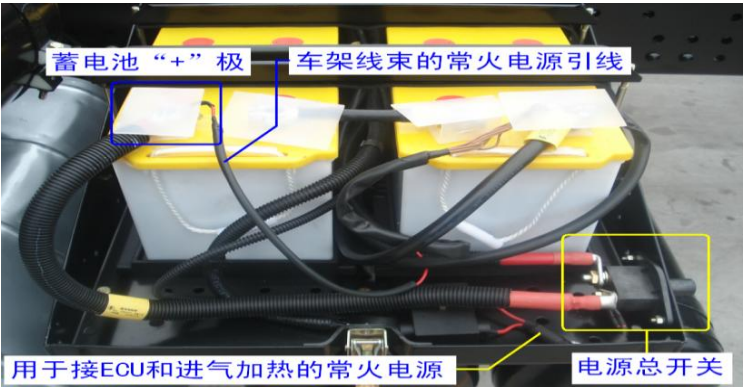

图9 德龙常火电源在蓄电池箱内的接线
**5.常火电源;**（不受电源总开关控制的电源）接常火电源的红线，接蓄电池负极的搭铁线也和侧标志灯线一同敷设至左纵梁并穿入蓄电池箱，直接接在蓄电池“+”极接线柱上（如图9所示）。
The red wire for the constant power supply (not controlled by the main power switch) is connected. The grounding wire, which is connected to the negative terminal of the battery, is routed along with the side marker light wire to the left longitudinal beam and then enters the battery box. It is directly connected to the positive terminal of the battery on the terminal post (as shown in Figure 9).